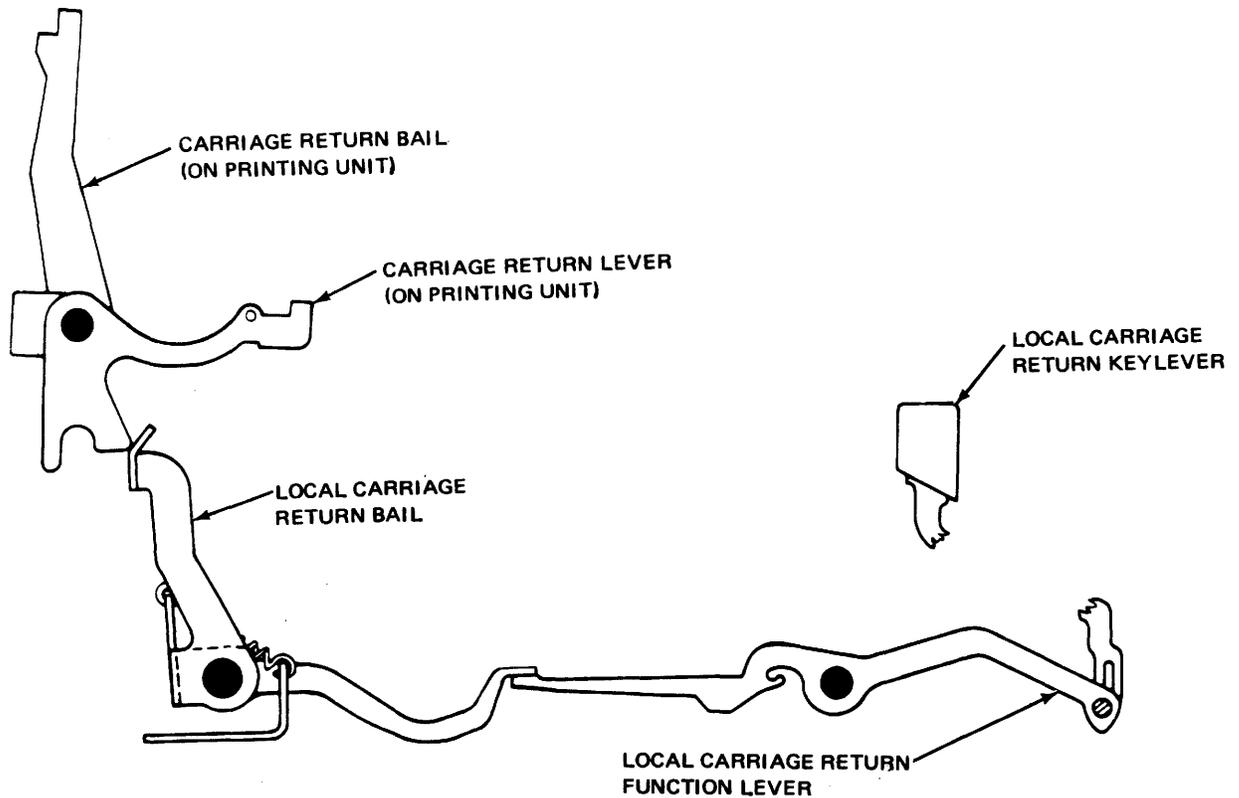

Figure 6-52. Local Carriage Return Mechanism.
- d. Ensure local carriage return bail on keyboard is in front of carriage return lever on printing unit (see figure 6-52).